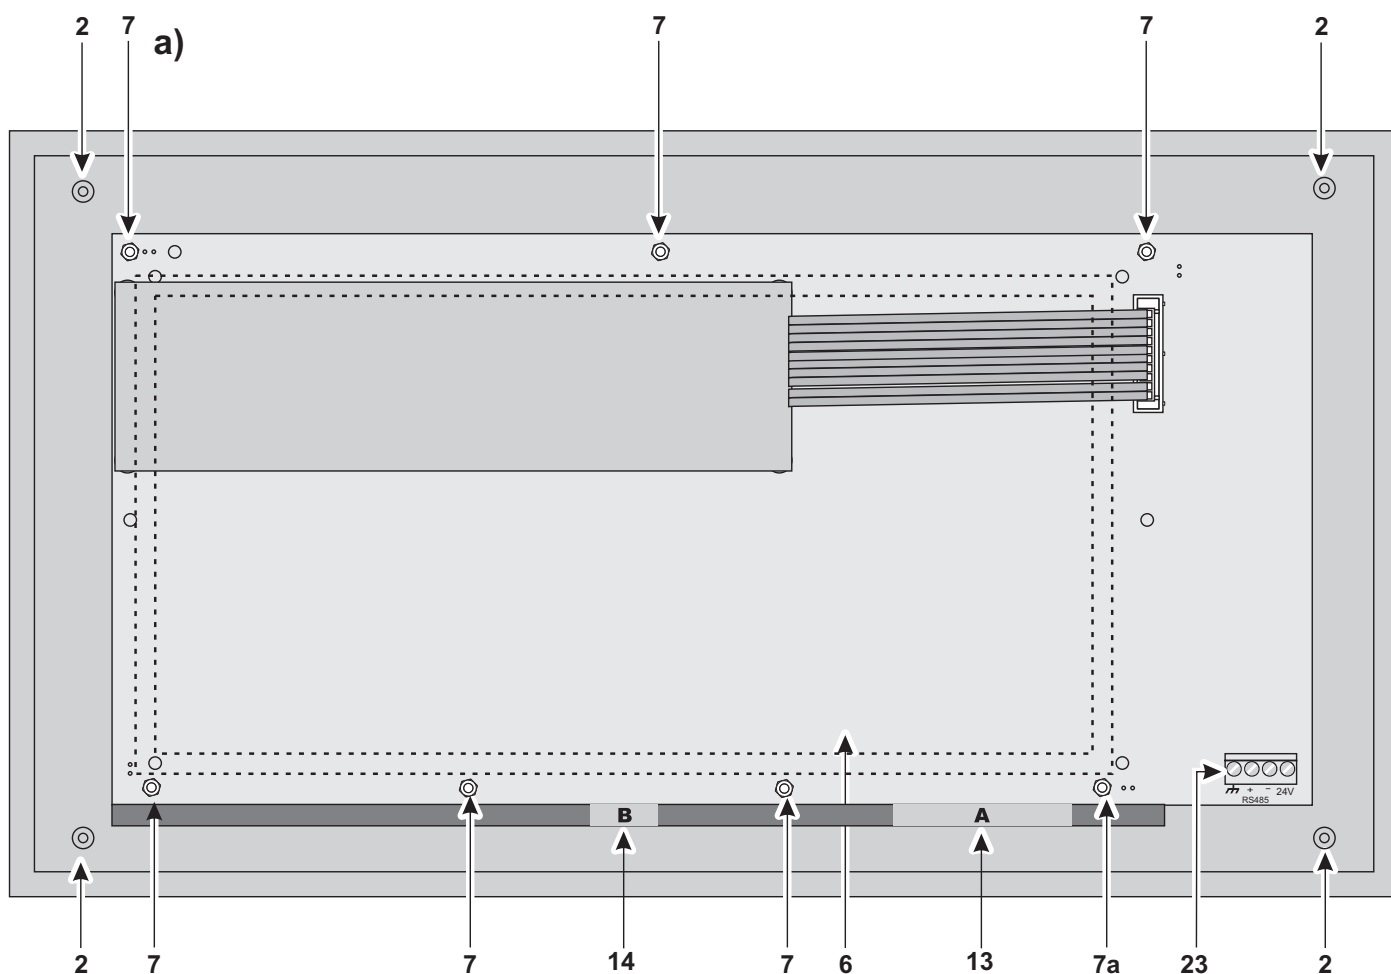

Figure 3 Configuration of the FC500REP Repeater **a)** frontplate (inside view); **b)** backplate.
- 1) Remove the screws **2** and open the Control panel or Repeater FC500REP (see Figure 3).
2. Remove the screws **2** (see Figure 3) and open the Repeater FC500REP.